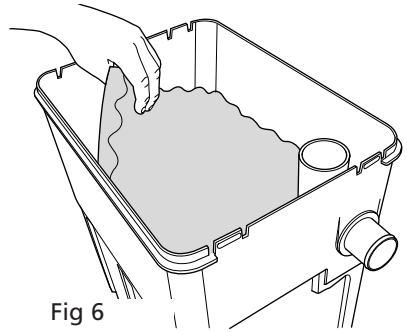

Fig 6
6.3 Remove the foam sheet and rinse it in the water left in the vessel (See Fig 6) Do not over clean. Drain the vessel of all the waste and water.